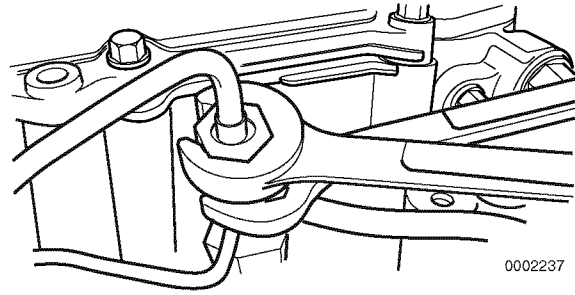

Figure 7-5
3. When tightening the fuel line nuts on the fuel injectors, use one wrench to hold the fuel return line nut and fuel return line from rotating. Use a second wrench to tighten the fuel line nuts (**Figure 7-5**). See *Special Torque Chart* on page 7-7.